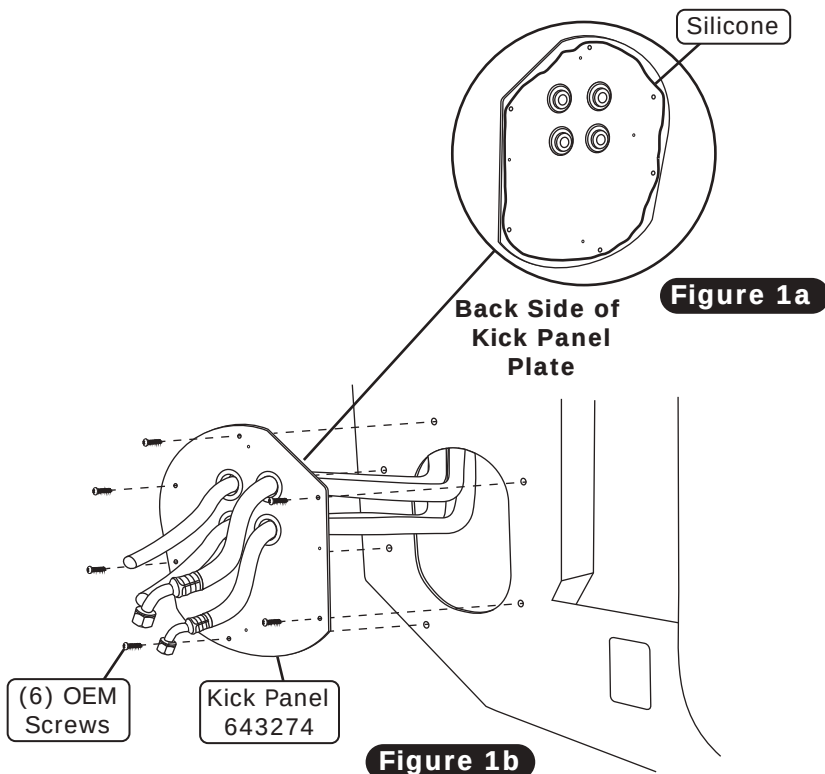

Figure 1b
3. Secure kick panel plate to kick panel using (6) OEM screws as shown in Figure 1b, below.